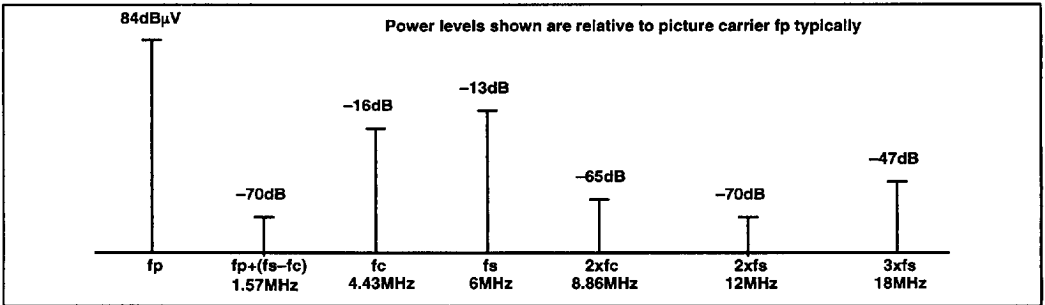
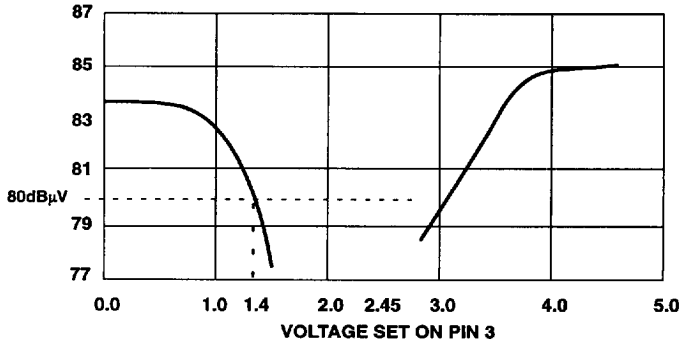

Fig. 3 Frequency spectrum above the Video picture carrier ( $Q_{TANK} = 9$ )
Fig. 4. Picture carrier, unmodulated RF output level
2. May be increased by use of external resistor, see Fig. 3
3. May be adjusted by use of external resistor dependent on video content, see Fig. 4
Pin 3 (MOD INDEX) is used to control both RF carrier amplitude and video polarity, see Fig. 3. Since the video input is internally AGC'd, varying the carrier amplitude will also adjust the video modulation index, see Fig. 4.
For example, for a negative modulation (PAL or NTSC) with an 80% modulation index, pin 3 should be set to 1.1 Volts (see Fig. 4). This voltage corresponds to an unmodulated RF output level of 82dBµV, see Fig. 3.
As already stated, great care must be taken with the mod index pin, pin 3. This should be decoupled with chip components as close to the pin as possible. Ideally the mod index should be defined with a DC voltage, thus requiring the use of two external resistors, see Figs 4 and 5. It is also possible to define mod index through the use of a single resistor connected to ground or  $V_{CC}$  depending on whether negative or positive modulation is required.